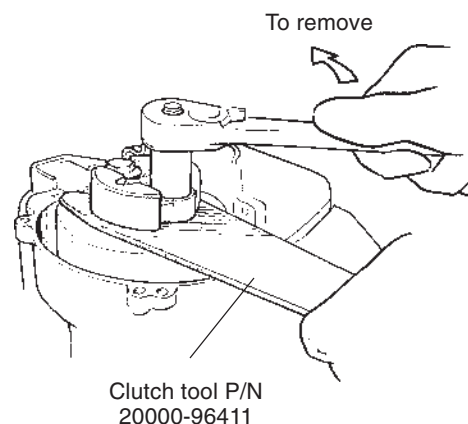
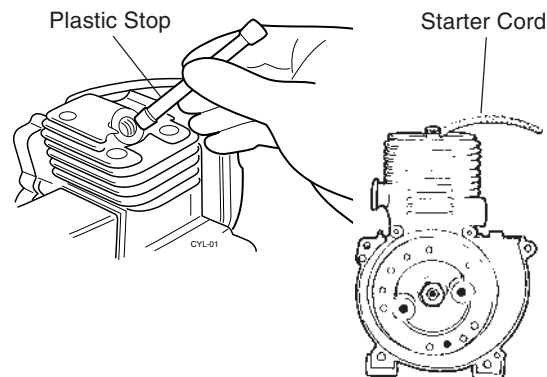

Figure 6.4 Using the clutch tool.
Figure 6.5 Two methods of locking the flywheel
- STEP 1.** Lock the flywheel in position with clutch tool p/n 20000-96411 (Figure 6.4), or use a soft piston stop or short length of starter cord as shown in Figure 6.5.
- STEP 2.** Use a soft piston stop or short length of starter cord to lock the flywheel in position (Figure 6.5).